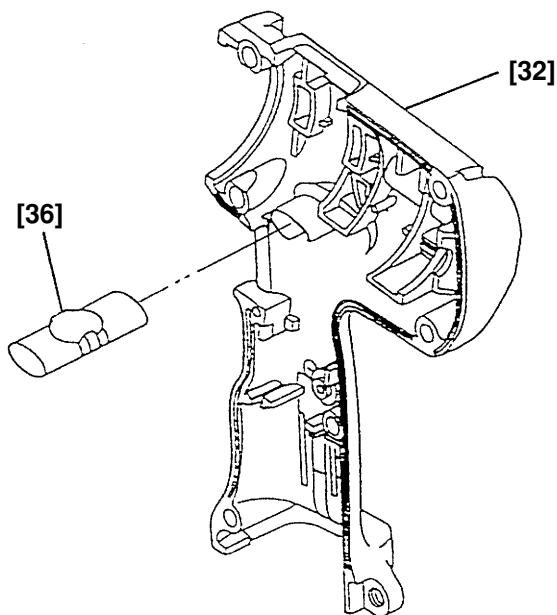

Fig. 14
- (5) Installation of the assembly reassembled in step (3) into Housing (A). (B) Set **[32]**
- (a) Install the Pushing Button **[36]** into Housing (A). (B) Set **[32]**. (See Fig. 14.)